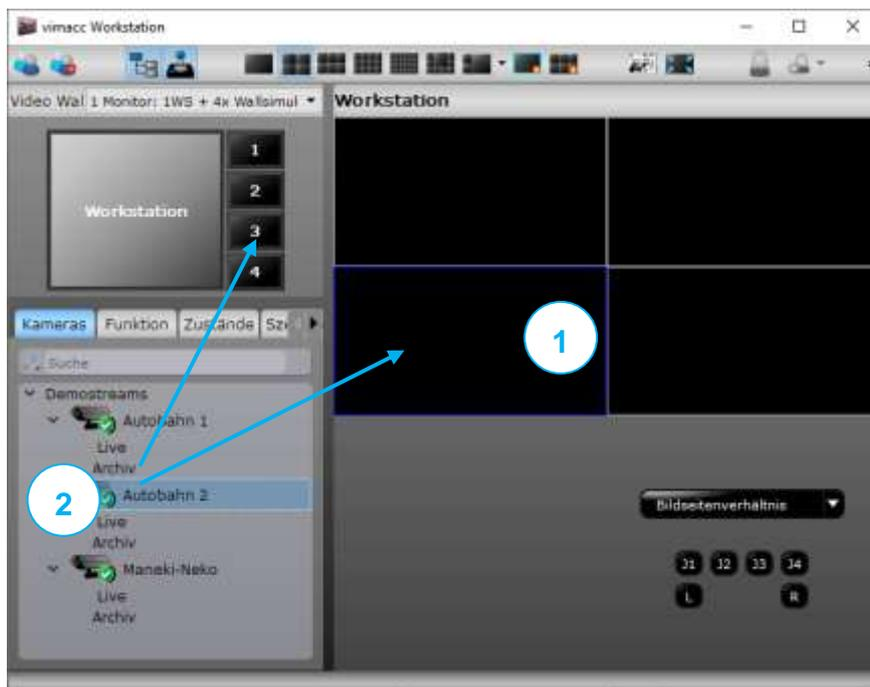

Figure 3-30: Connecting cameras
- Select the video dialog in which the video should be shown. The video dialog becomes "active" and is marked with a blue frame (see Figure 3-30: Connecting cameras)
Marked cameras can also be directly connected to the video control via drag & drop (see Figure 3-30: Connecting cameras).